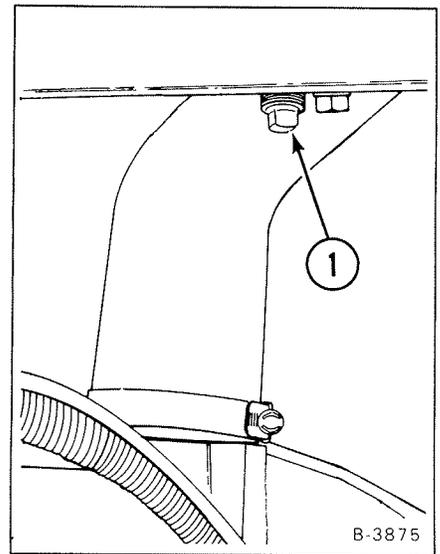

Fig. 1-43 Spark Arrestor Muffler Plug Location
- (1) Open the rear door.
- (2) Remove the plug at the bottom of the muffler (Fig. 1-43, Item 1).